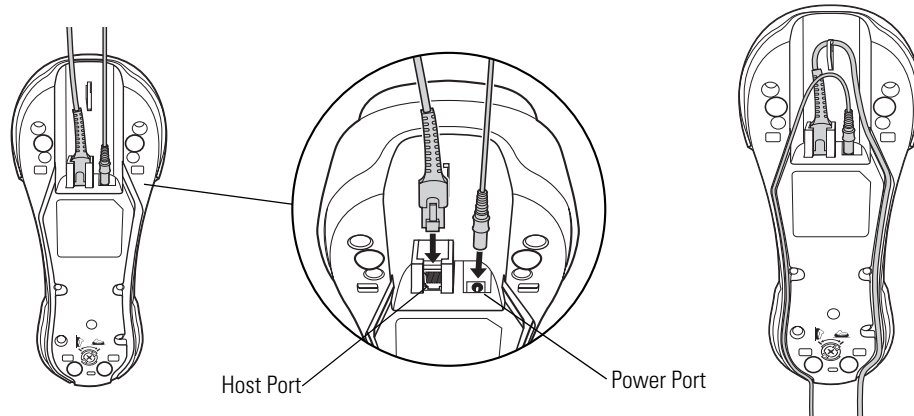

Figure 1-4 Connecting the Cables to the Cradle
1. Disconnect the power supply from the scanner cradle. See Figure 1-4.